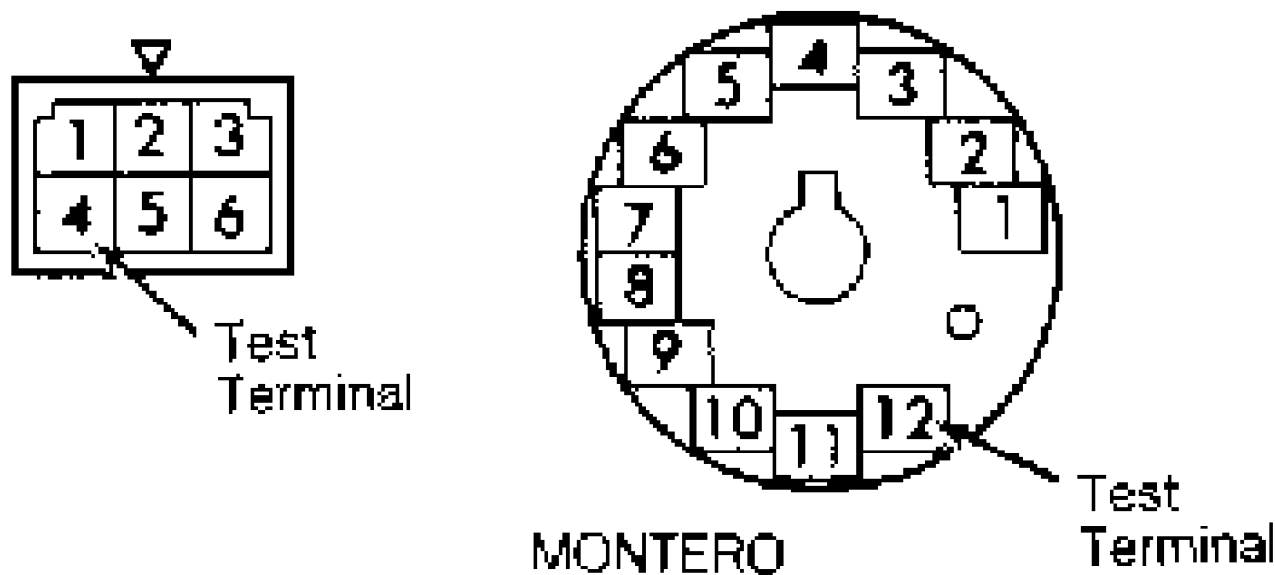

Fig. 7: VSS Sensor Connector Term. ID (Montero)
1) Vehicle Speed Sensor (VSS) is located in speedometer assembly. Connect an ohmmeter between sensor terminals on back of instrument panel. See Fig. 7 or 8.